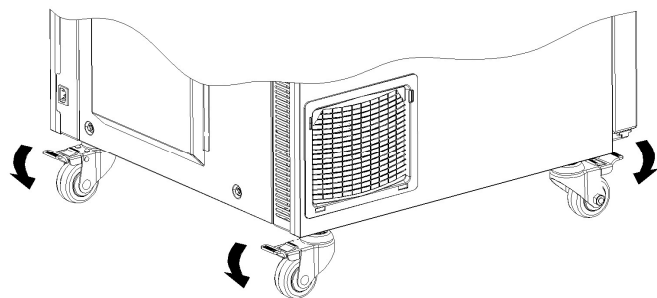

Fig.5
- The locking devices of the two front castors must be activated, when the product is in place (see Fig.5)